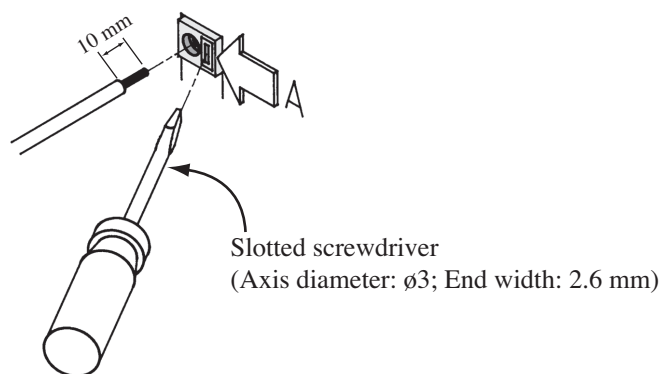

Fig. 2-5 SHUT DOWN connection
3. As shown in Fig. 2-5, while pressing Point A with a slotted screwdriver, insert the cable.